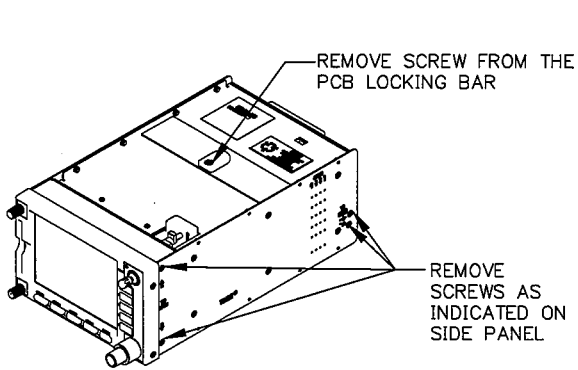

FIGURE 1
- REMOVE THE SIDE PANEL SCREWS FROM THE KMD 540 MFD AS SHOWN IN FIGURE 1.
- REMOVE THE SCREW IN THE PCB LOCKING BAR ON THE TOP OF THE KMD 540 AS SHOWN IN FIGURE 1.